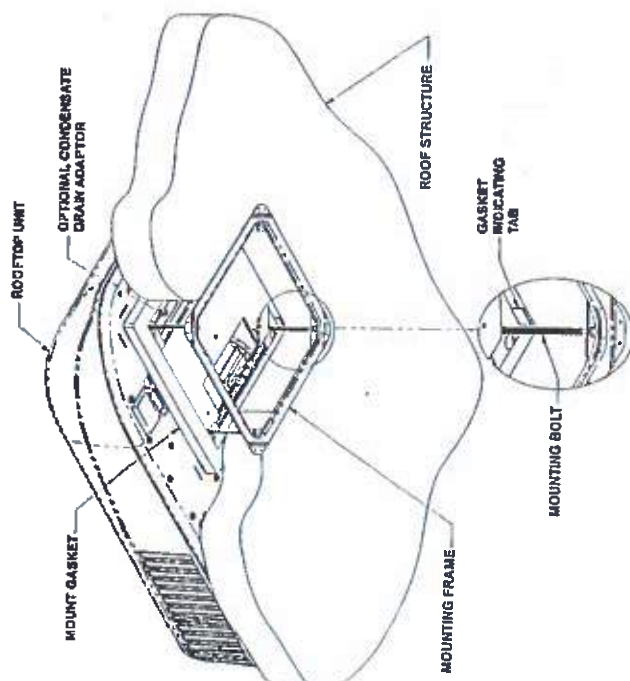

FIGURE 4
E. Securing the heat pump to the roof - A mounting frame is supplied with the ceiling assembly. Follow the steps below to secure the Heat Pump to the roof. Refer to Figure 4.
3. Proper tension has been achieved for each bolt when any portion of each gasket indicating tab has been pulled down even with the roof. See Figure 4. The upper unit has now been properly installed with optimum gasket compression.
4. If the heat pump is equipped with an optional evaporator condensate pump, a 1/2" I.D. hose must be provided that runs from the 14" square opening through the vehicle ceiling and down the side wall to allow water to drain under the vehicle. The hose must not be allowed to kink shut while making a bend. Connect the top end of the drain hose to the barbed fitting shown in Figure 4